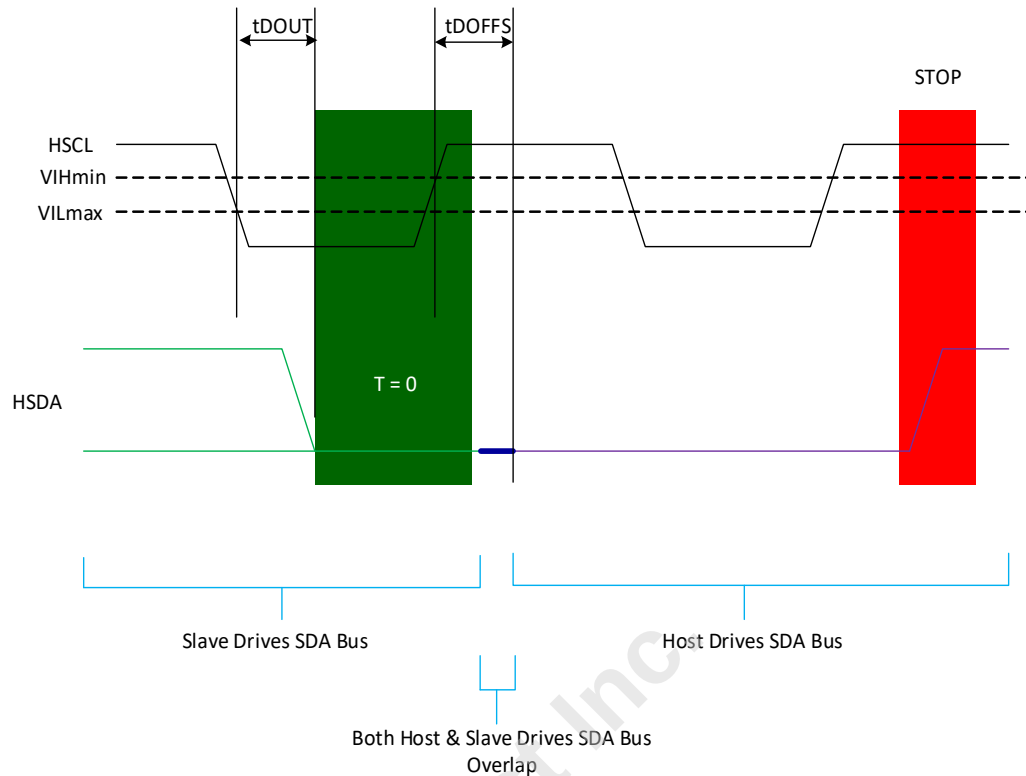

Figure 22 — T=0; Slave Ends Read; Host Generates STOP
6. See Figure 22 to see how slave device ends the operation followed by Host STOP operation.
7. See Figure 22 to see how slave device ends the operation followed by Host STOP operation.
2. See Figure 22 to see how slave device ends the operation followed by STOP operation
4. See Figure 22 to see how slave device ends the operation followed by STOP operation
2. See Figure 22 to see how slave device ends the operation followed by Host STOP operation.